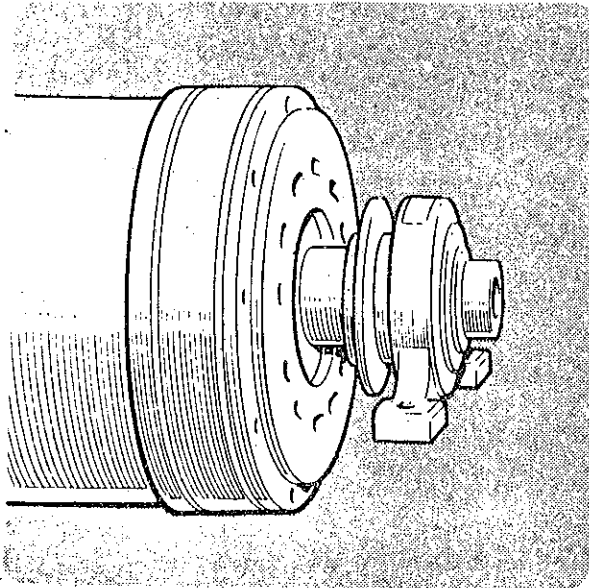

Figure 21. Removal of Pillow Block
- (a) Remove the parts as described in paragraphs 6 (a-i) of 'Maintenance.' Set the bowl assembly in a horizontal cradle as in Figure 21 or stand it vertically as explained in 6(l)
- (g) Remove the pillow block frame by sliding it away from the bowl by hand (Figure 21). This will remove the outer race and the roller assembly.
- (b) Set the bowl assembly on a horizontal cradle as in Figure 21 or stand the bowl assembly on end by placing, underneath the front hub, blocks of such size that the gear box adaptor will clear the floor. Never rest the gear box adaptor on the floor, as severe gear box misalignment could result.